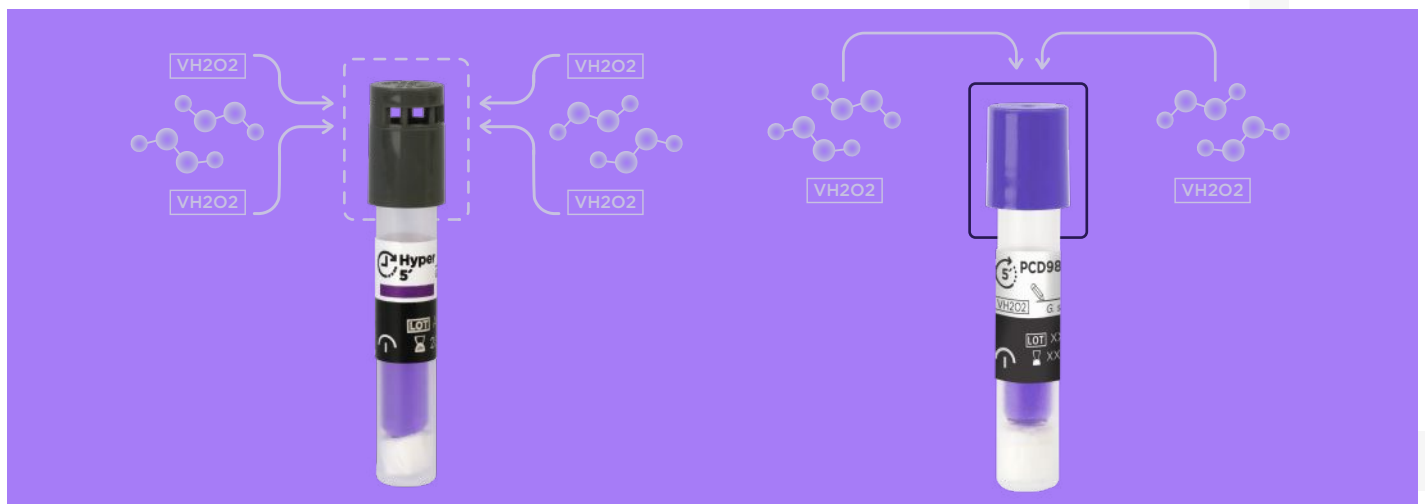

Figure 1. Comparison between PCD98 and BT98 cap design
- The cap acts as a controlled diffusion barrier: VH2O2 must penetrate through this barrier to reach the spore carrier at the bottom of the tube (Figure 1).